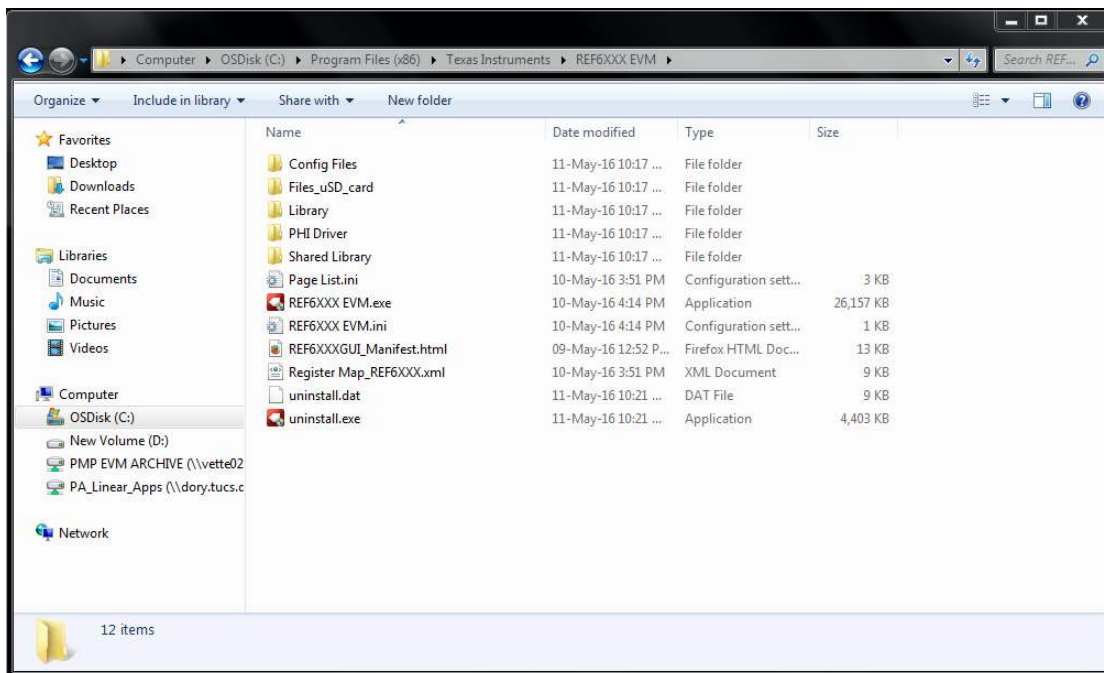

Figure 8. Launch the EVM GUI Software
3. Launch the REF6025EVM GUI software, as shown in Figure 8. The rate at which LED D2 blinks slows down, indicating that the GUI is successfully communicating with the REF6025EVM-PDK.